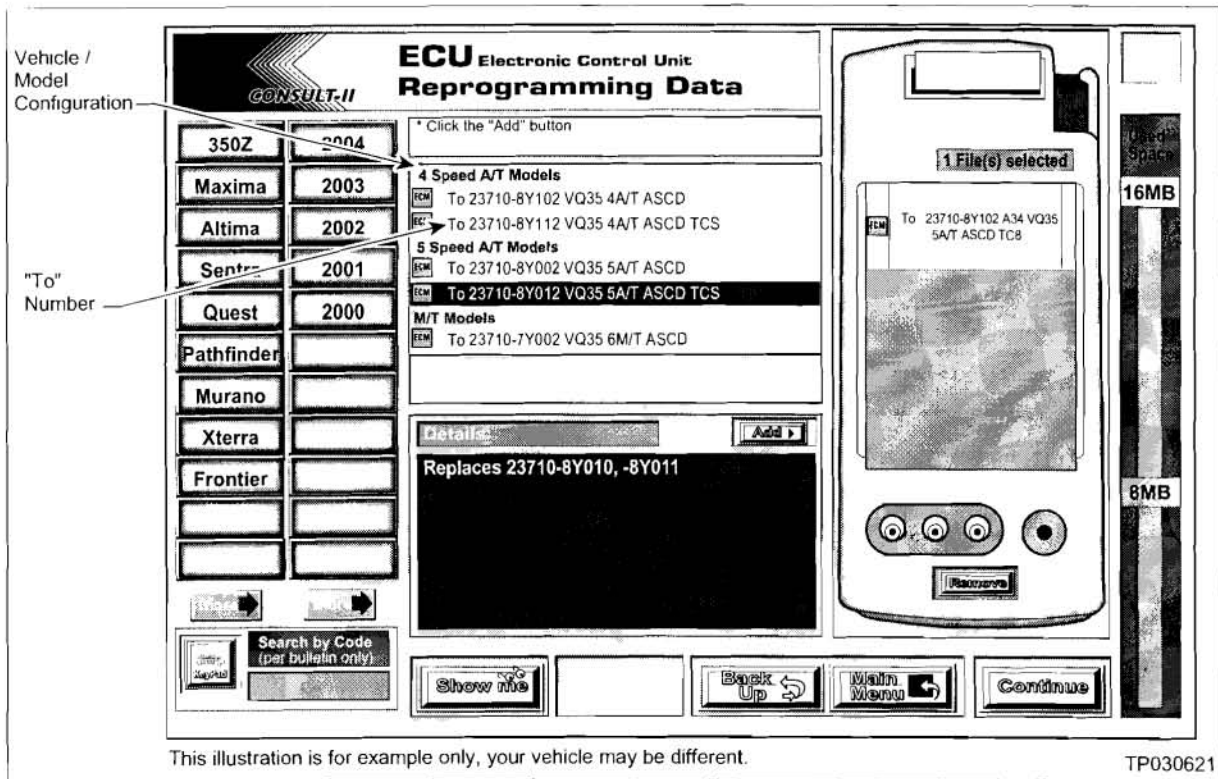

Figure A6
7. Select the **"ECU REPROGRAMMING DATA"** (see Figure A6) as follows: